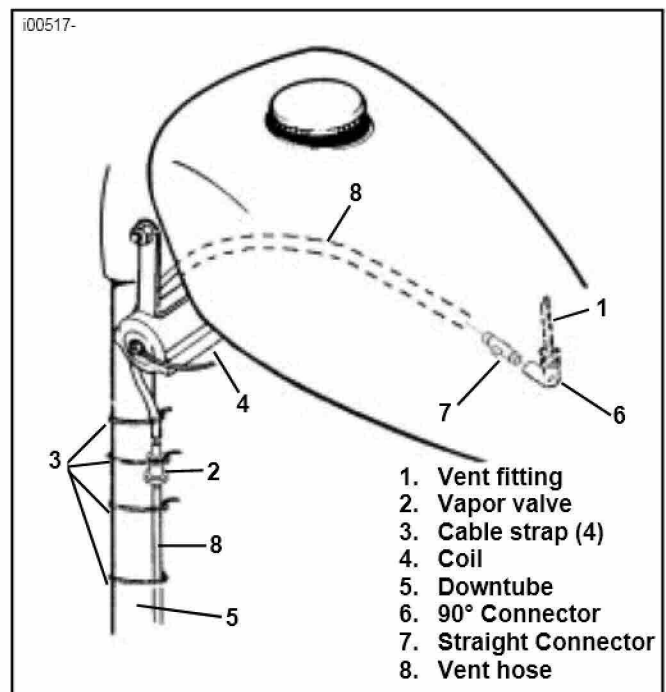

Figure 5. Vent Hose Routing (Left Side)
1. See Figure 5. Attach to tank vent fitting (1) (located at right, rear, bottom of new fuel tank) the large end of 90° connector (6). Attach small end of 90° connector to straight connector (7). Attach new vent hose (8) to straight connector (7).
2. Position the vent hose (8) along the frame backbone. Eliminate any low points.
3. Measure and cut sufficient new vent hose (8) and attach it to straight connector (7) in evap system (not shown).
1. See Figure 5. Attach vapor valve (2) to left downtube (5) with cable strap (3). Locate vapor valve (2) approximately 4 in. below upper front engine mount on inside rear quadrant of downtube (5).